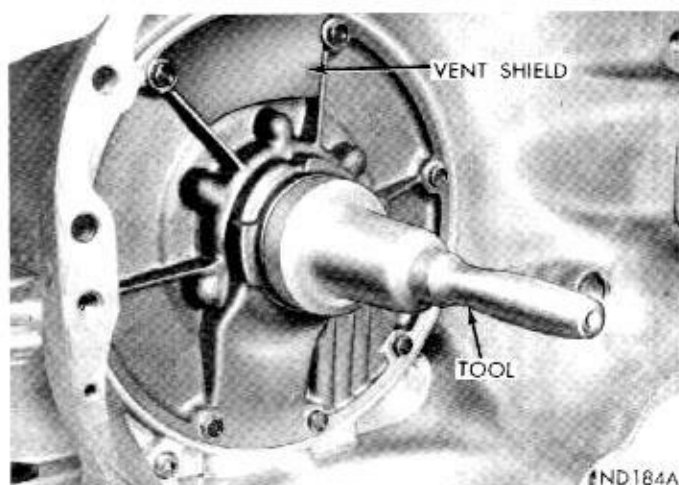

Fig. 29—Installing Pump Oil Seal
(2) **A-904:** To install a new seal, place seal in opening of the pump housing (lip side facing inward). Using Tool C-3757, drive seal into housing until tool bottoms (Fig. 29).